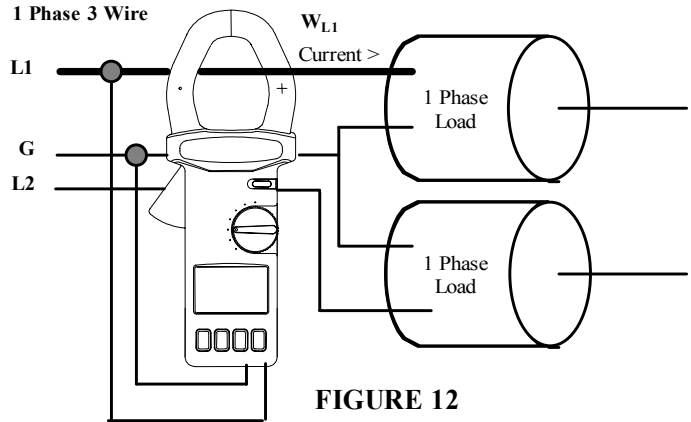

FIGURE 12
1. First, measure W_{RS} (or W_{L1G}). See Fig.12.